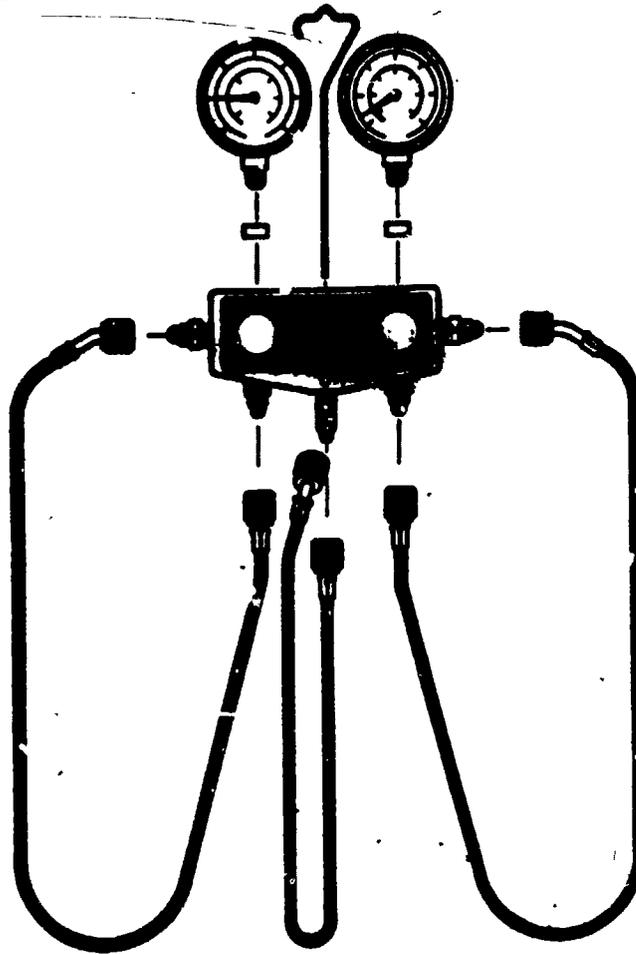

Figure 2.
19. Connect the hoses as on figure 2 and close the high and low valves on the manifold assembly.